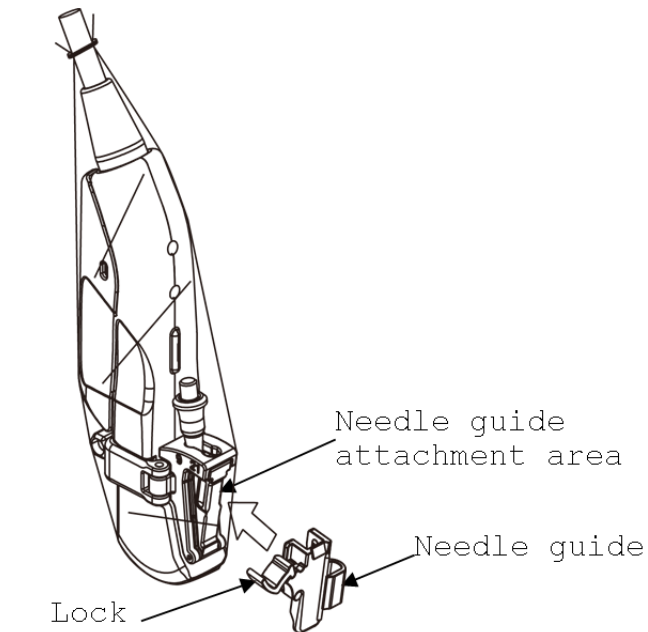

Fig.13 Attaching the needle guide
- 1) Attach the unlocked needle guide onto the needle guide attachment area of the bracket. (See Fig.13)